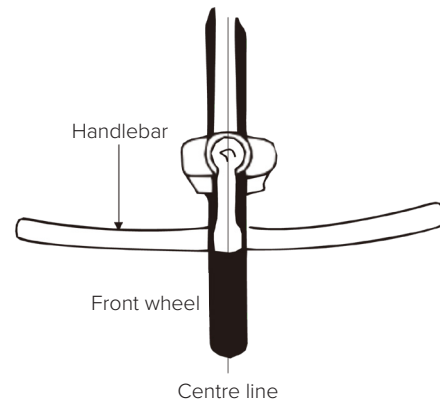

fig. 7
2. Align the handlebar stem with the front wheel (see fig. 7). Tighten securely the expander bolt with an adjustable wrench. **Note:** Some models require a 6mm Allen key. (Tightening torque: 18N.m or 14 footlbs.torque)
When you straddle and grip the front wheel between your knees, the handlebar should not be able to turn when you apply pressure horizontally. Refer to (fig. 7).